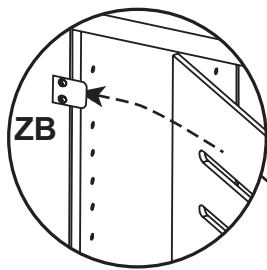

Fig. 3a
- 3. You may want to remove the Removable Backs (D) so that you can fit your media units into the console more easily. To do so, unlock the Turn Button (ZC) as shown in Figures 3 and 3b. Slide the Backs away and place them off to the side. To put them back into place, slide the Backs behind the Drawer Stops (ZB) and position the Turn Button so that it is locked. See Figures 3a and 3b.**